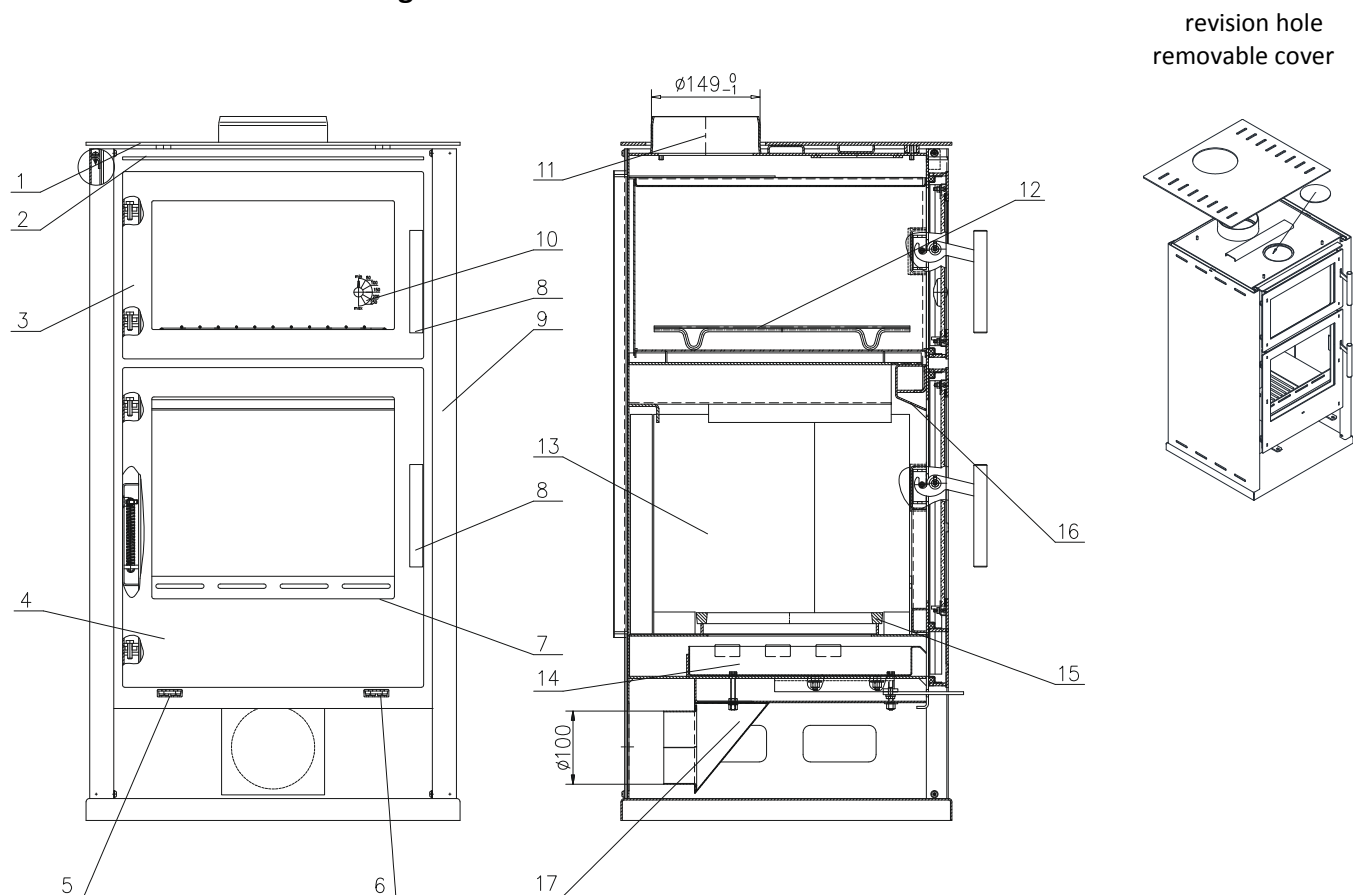

Fig. 1.
Your stove is constructed with a built-in oven, which is intended only for heating dishes. The temperature in the oven depends on the intensity of burning and the amount of wood loaded. A thermometer is mounted on the oven door (Fig.1, Pos.3) to facilitate temperature control.
Under the top plate (pos.1, Fig.1) there is a revision hole, which is closed with a removable cover. This hole is for cleaning the surface above the muffle. It is advisable to remove the accumulated soot at least 2 times during the heating season.